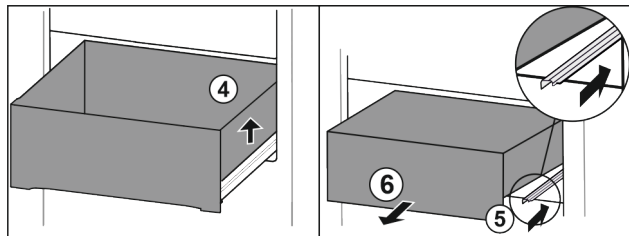

Fig. 83
- ▶ Lift drawer on the right. Fig. 83 (4)
- ▶ Insert right rail. Fig. 83 (5)
- ▶ Remove drawer to the front. Fig. 83 (6)